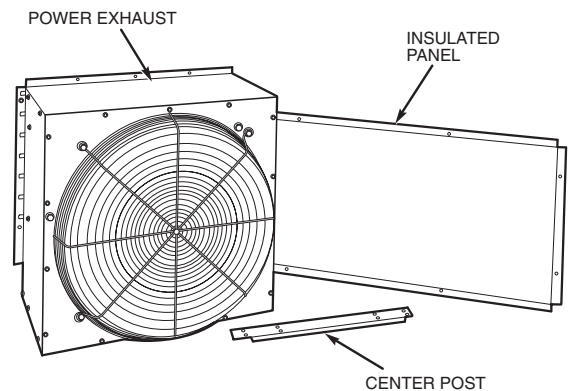

Fig. 1 — Accessory Power Exhaust Package
1. Unpack accessory package. See Fig. 1.